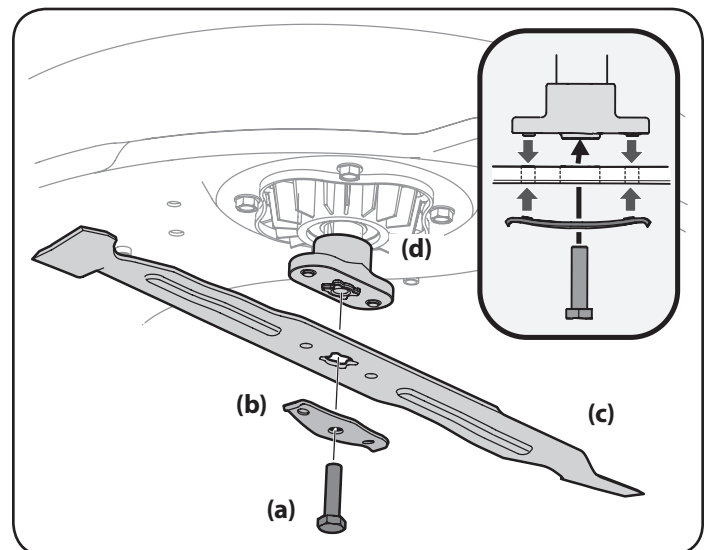

Figure 24
- Remove the hex screw (a) and the blade bell support (b) which holds the blade (c) and the blade adapter (d) to the deck motor. See Figure 24.
4. Remove blade (c) and adapter (d) from the deck motor spindle See Figure 24.